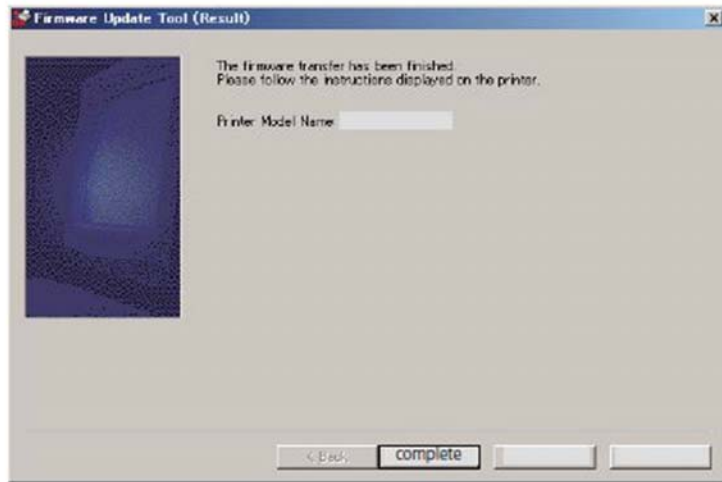

Figure 11 Result
11. Click **complete** on the Result screen. The firmware upgrade is complete, the device will reboot, and a Software Upgrade Report will be printed, Figure 11.